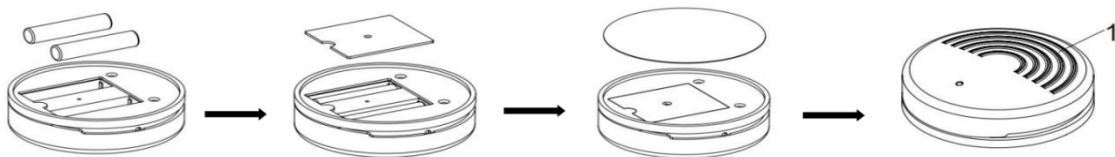

Figure 12
- 4) Insert the wired foot switch plug into the wired foot switch socket; See Figure 12 and 13 for details of wireless foot switch.